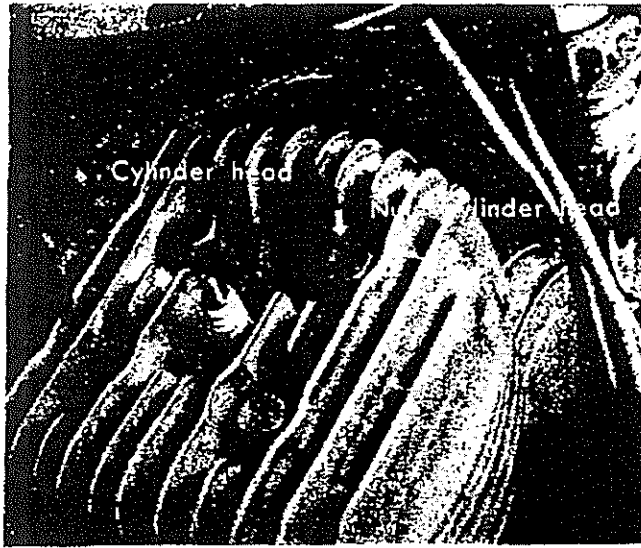

Fig. 35
This will help provide maximum engine performance. (Fig. 35)
- a) To decarbonize, remove heads by removing cylinder head nuts. (Fig. 35)